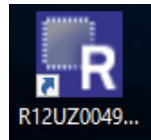

Figure 3. Desktop Icon
3. Click the Renesas DAQ shortcut (created in "Installing the Software and USB Drivers") on the desktop. Figure 3 shows the desktop icon. The green LED on the DAQ on a Stick board turns on.